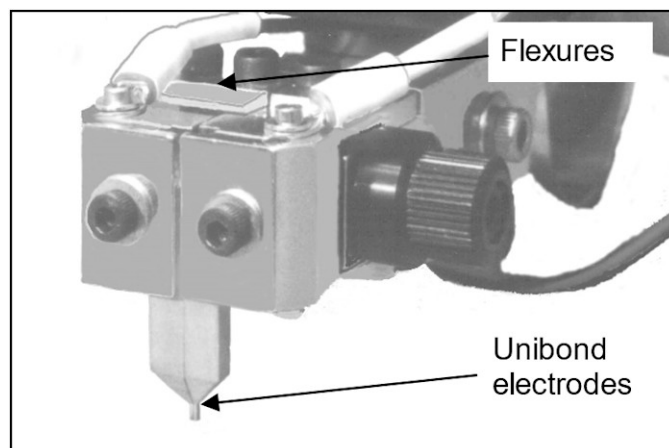

Figure 2-3. HE50UB Electrode with EU1000 Unibond Electrodes
- 2 Loosen the Electrode Holder Clamp Screws. Set the Electrode Gap Adjustment Knob for maximum gap width and insert the Unibond Electrodes into the holders as shown in figure 2-3.